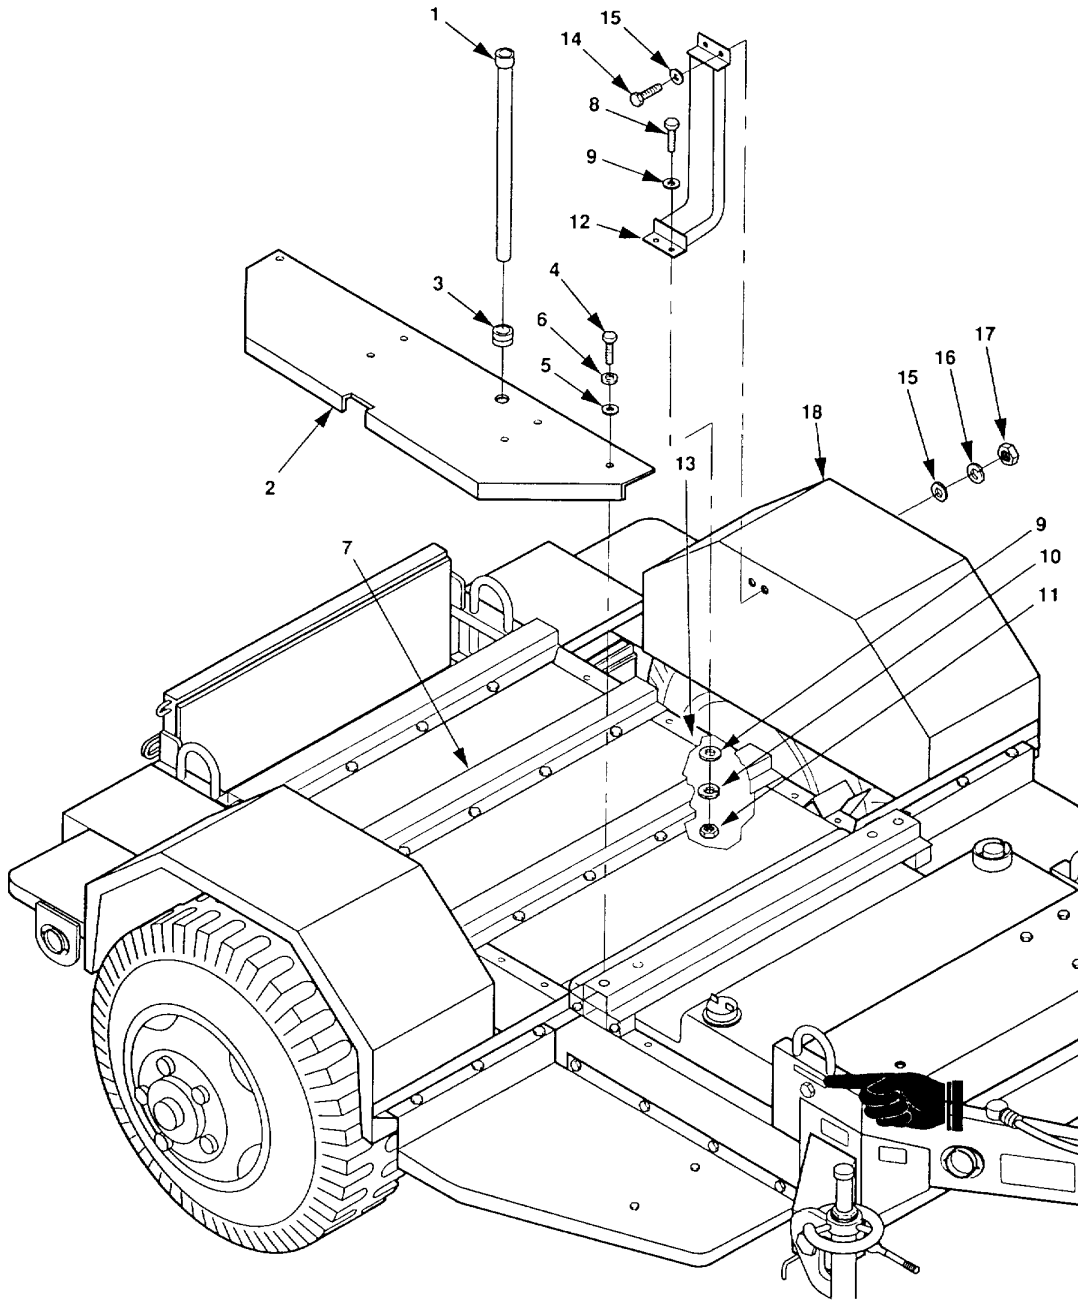

Figure 4-20. Walkway and Fender Bracket Replacement.
4-31. Walkway and Fender Bracket Replacement (See figure 4-20). The roadside and curbside walkways and brackets are symmetrical Replacement procedures are the same for both, except where noted.
- (1) Disconnect fuel line (1, figure 4-20) from generator set. Feed fuel line down through walkway (2)